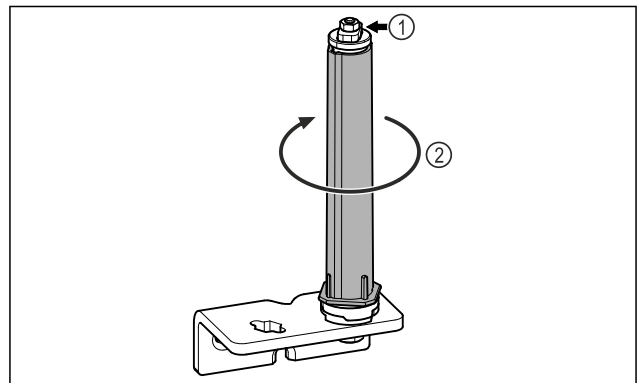

Fig. 13
- ▶ Do not disassemble the door locking system Fig. 13 (1).
- ▶ Turn the locking system Fig. 13 (2) until it clicks.